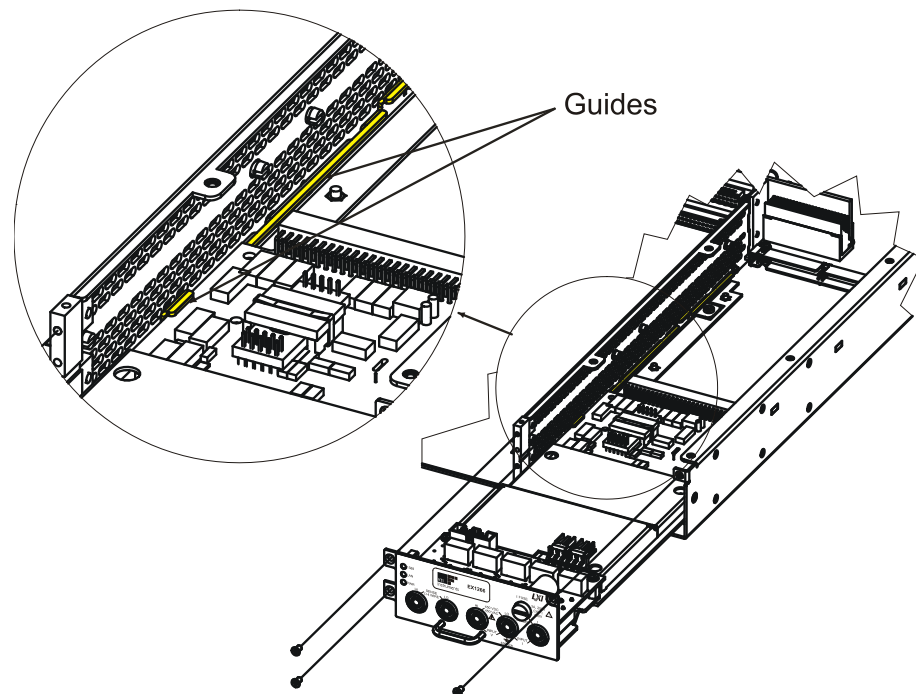

FIGURE 9-1: EX1266 DMM REMOVAL
- 1) Remove the three screws shown in Figure 9-1 using the #2 Phillips screwdriver. Retain these screws for re-installation.
- 1) Using the guides shown in Figure 9-1, slide the DMM into the mainframe unit until the DMM is supported by the card guides.
- 4) Install the three screws as shown in Figure 9-1 using a #2 Phillips screw driver.